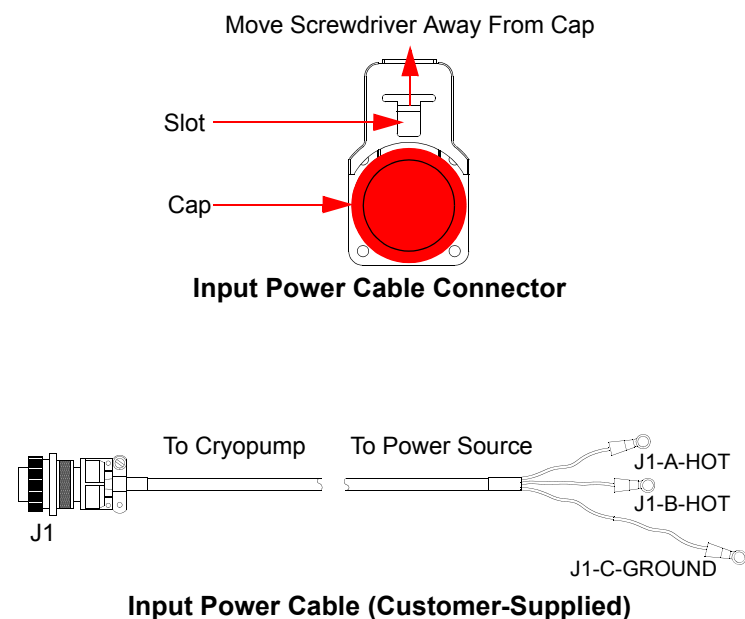
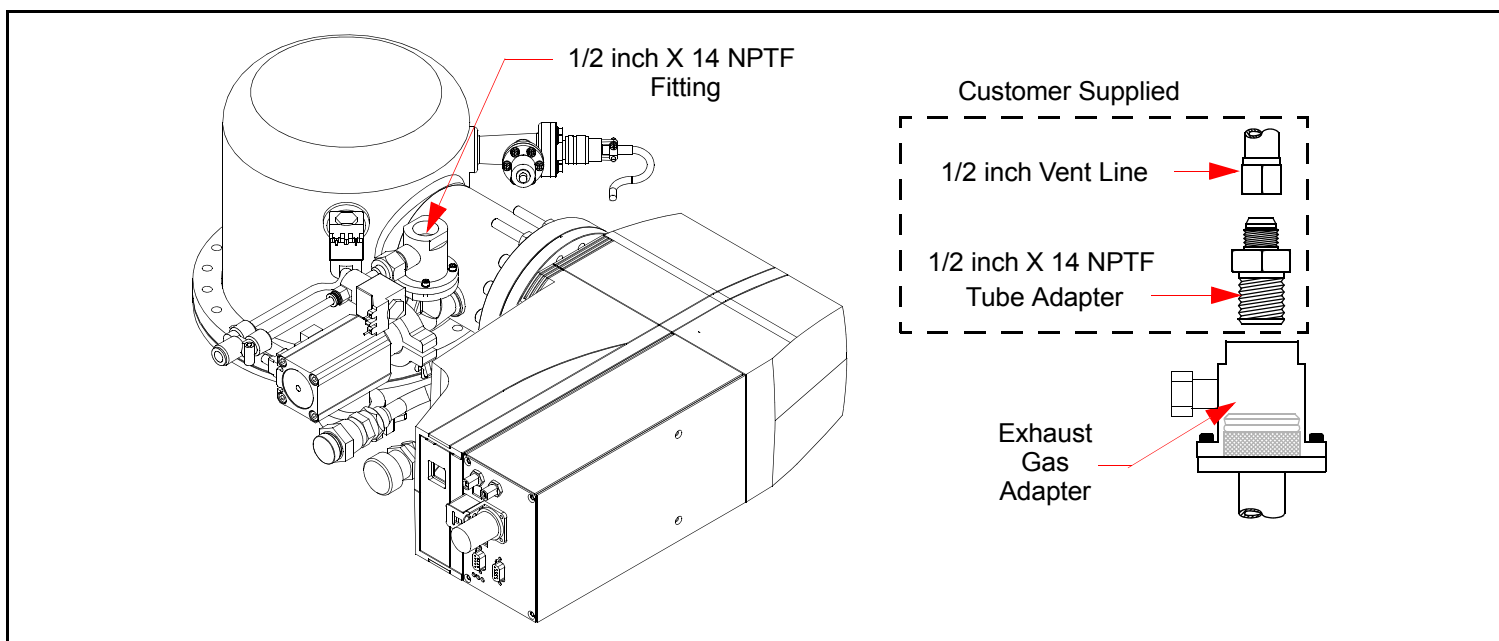

Figure 2: Input Power Cable Connector and Input Power Cable
Figure 3: Relief Valve Exhaust Connection
NOTE: To avoid loss of helium, do not modify or remove the pressure relief valves. (See *Figure 3*) Always connect and disconnect helium flex lines with the method illustrated in *Figure 1 Inset*.
See the following numbered steps in *Figure 1*, *Figure 2*, and *Figure 3* for cryopump installation connections.
- 4 Connect pressure relief valve exhaust (*Figure 3*).
- 12 Remove cap and connect Input Power Cable (*Figure 2*).